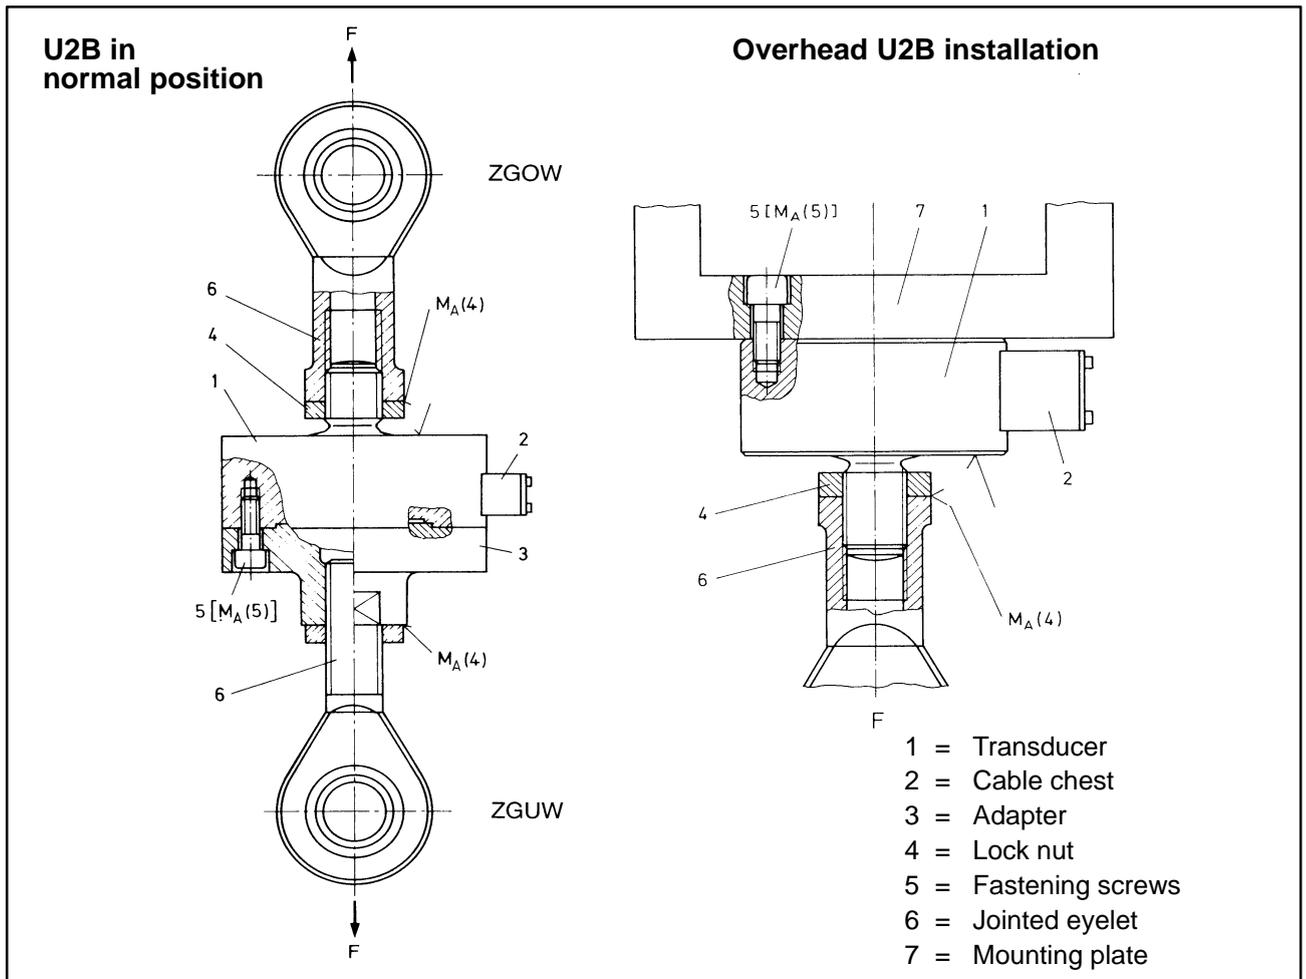

Fig. 4.1: Installing the U2B
The adapter (3) can be removed by undoing the screws (5). The transducer can then be screwed onto the upper part for taking tensile measurements. Care must be taken to make the bearing surface on the mounting plate flat. For attachment use screws (5) of at least A2-70 quality (Fig. 4.1). To withdraw them again use torque  $M_{A(5)}$  (see dimension chart). When the adapter is removed the zero signal on the force transducer can change by  $\ll 1\%$ . Make compensating adjustments for this when connecting the electronics. When measuring dynamic forces, the screw connections to the threaded pin and internal thread must be properly pretightened when the transducer is free of load: the tightening torque  $M_{A(4)}$  is listed in the dimension chart. It may be exceeded by not more than 10%. If a lock-nut is used, the torque must on no account be conducted through the transducer.